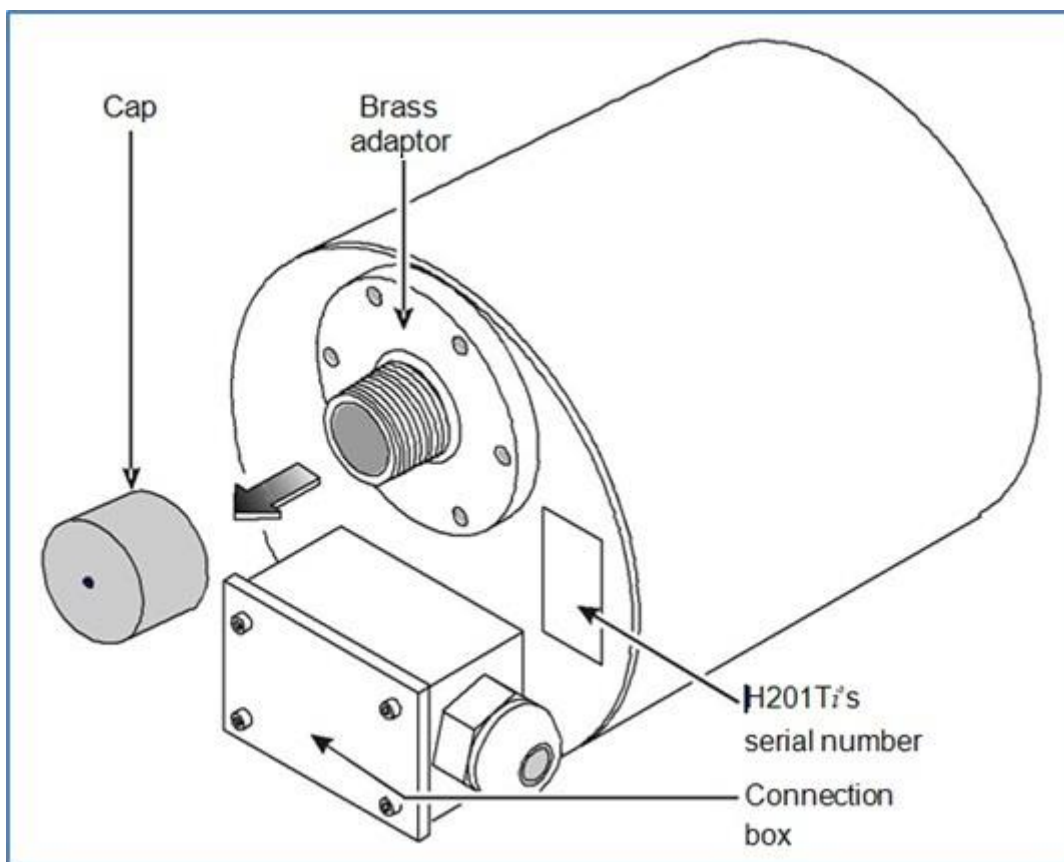

Figure 6-1: H201Ti's Serial Number and Protective Cap
1. Do not separate the Hydran 201Ti Intelligent Transmitters from their respective Hydran 201 sensor. The H201Ti is set at the factory for a specific H201 sensor. To verify whether the two components are paired correctly, consult the serial numbers indicated on the shipping box and/or the Test Certificate and Data Sheet. The sensor's serial number is located below the connector (see Figure 3-3); while the H201Ti's serial number is located at the back of the heating plate (see Figure 6-1 below).
2. Do not remove the protective plastic caps from the sensor and/or the brass adaptor's threaded extremity until ready to install on the transformer valve. These caps protect the adaptor threads (see Figure 6-1 above) and the sensor membrane from debris and sharp objects. If the sensor is dismantled, place immediately the supplied cap onto the sensor's threads.